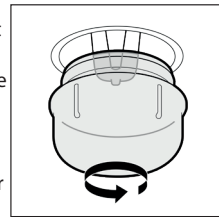

Fig. 2
2. Open the door and lift off the feet A on the left and right hinge Fig.2.
2. Unscrew the glass cover in the anti-clockwise direction according to Fig. 2 and replace the bulb with a bulb of the same type and parameters.